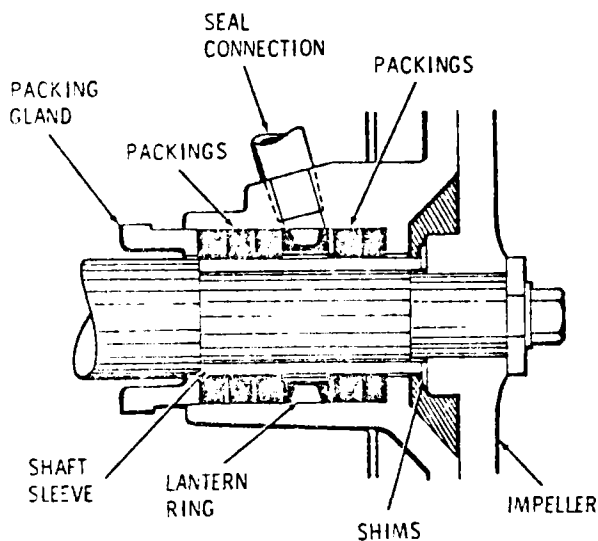

Figure 14. Cross section of a typical stuffing box seal.
b. After removing the packings, clean out the stuffing box thoroughly. Dip the new packings in oil before installation. On seals with a lantern ring, install enough packing rings so that the lantern ring will be in line with the seal connection when packings are compressed (see Figure 14). Install the lantern ring and add enough packing rings to fill the remainder of the stuffing box. On seals without a lantern ring, install enough packings to fill the stuffing box. When installing packing rings, rotate each successive layer by 90 degrees to prevent a leakage path through the joints.